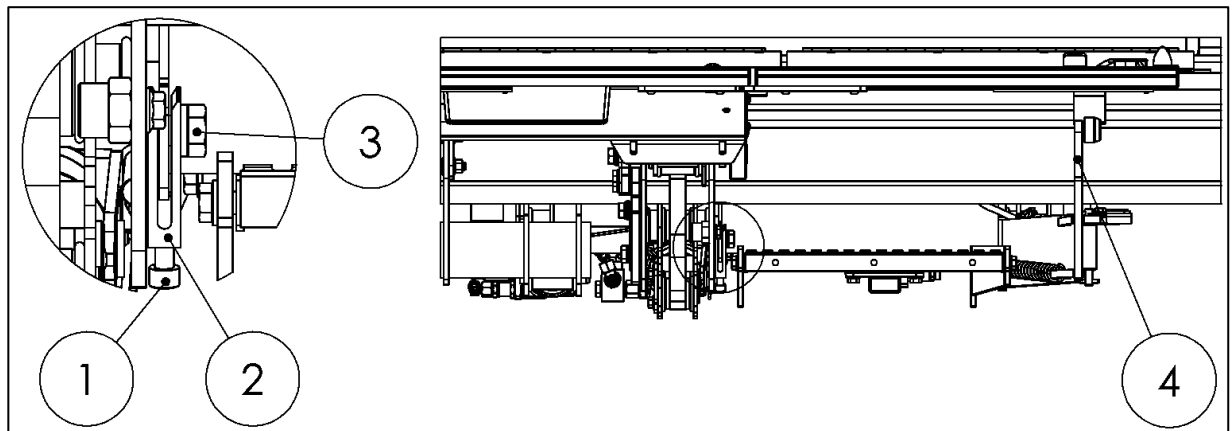

Fig. 73
If necessary, adjust the height of the foldover section on the right side of the platform using the right-hand adjustment fork (2) (adjustment screw accessible from below) (see Fig. 73).